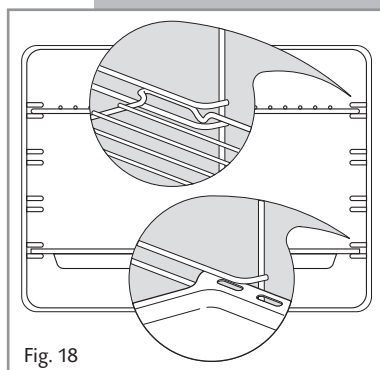

Fig. 18
- Slide the tray and rack into the runners (Fig. 18). The rack must be fitted so that the safety catch, which stops it sliding out, faces the inside of the oven.